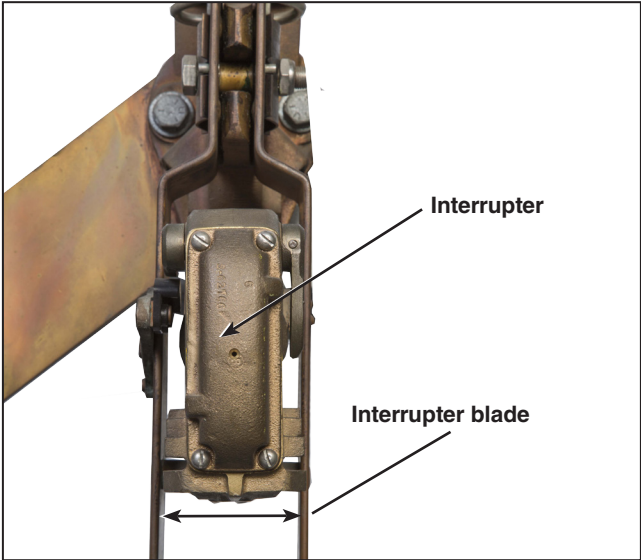

Figure 4a. Type NL Interrupter Blade. Check to make sure the interrupter is centered between both sides of the interrupter blade.
- (b) The interrupter should be centered between the two halves of the interrupter blade, with equal clearance on either side. See Figure 4a and 4b.